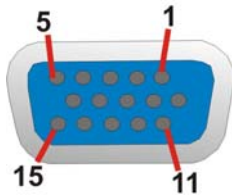

Figure 3-31: VGA Connector
- CN Pinouts:** See **Figure 3-31** and **Table 3-10**